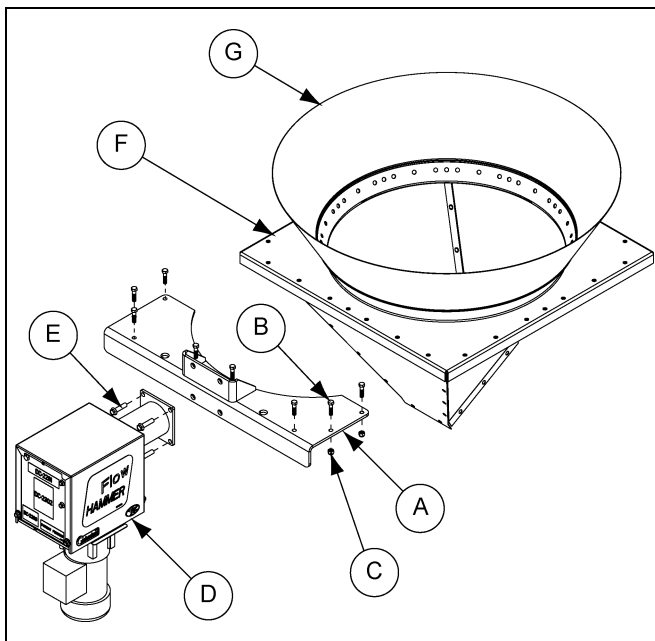

Figure 3D Exploded View
1. Remove and discard eight (8) existing bolts and nuts from the square collar as shown in Figure 3D.
3. Insert the eight (8) provided 5/16"-18 x 1-1/4" grade 8 hex bolts (S-9350) (B) and nylock nuts (S-7382) (C) in place of the eight (8) bolts and nuts removed in Step 1. (See Figure 3D.) Tighten these new bolts and nylock nuts securely.
1. Align the four (4) holes on power unit (FLX-5185A) (D) with the holes in the mounting plate (FLX-5199-RD) (A). (See Figure 3D.)
2. Fasten them together using the four (4) 3/8"-16 x 1-1/2" hex head flange bolt (S-7928) (E).